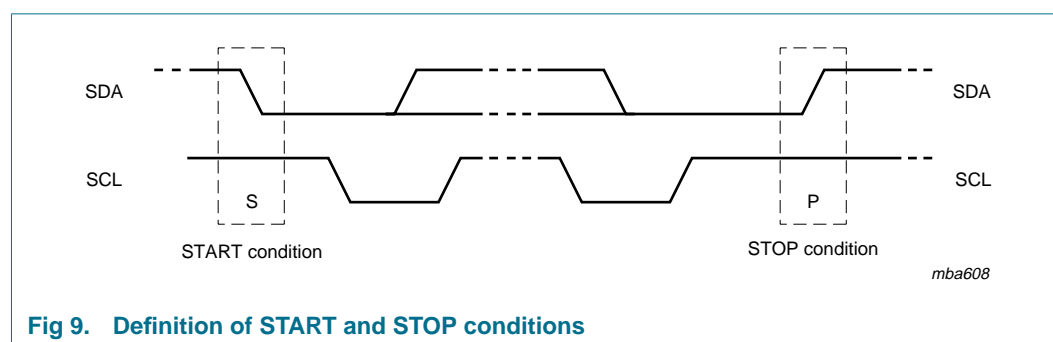

Fig 9. Definition of START and STOP conditions
Both data and clock lines remain HIGH when the bus is not busy. A HIGH-to-LOW transition of the data line while the clock is HIGH is defined as the START condition (S). A LOW-to-HIGH transition of the data line while the clock is HIGH is defined as the STOP condition (P) (see Figure 9).